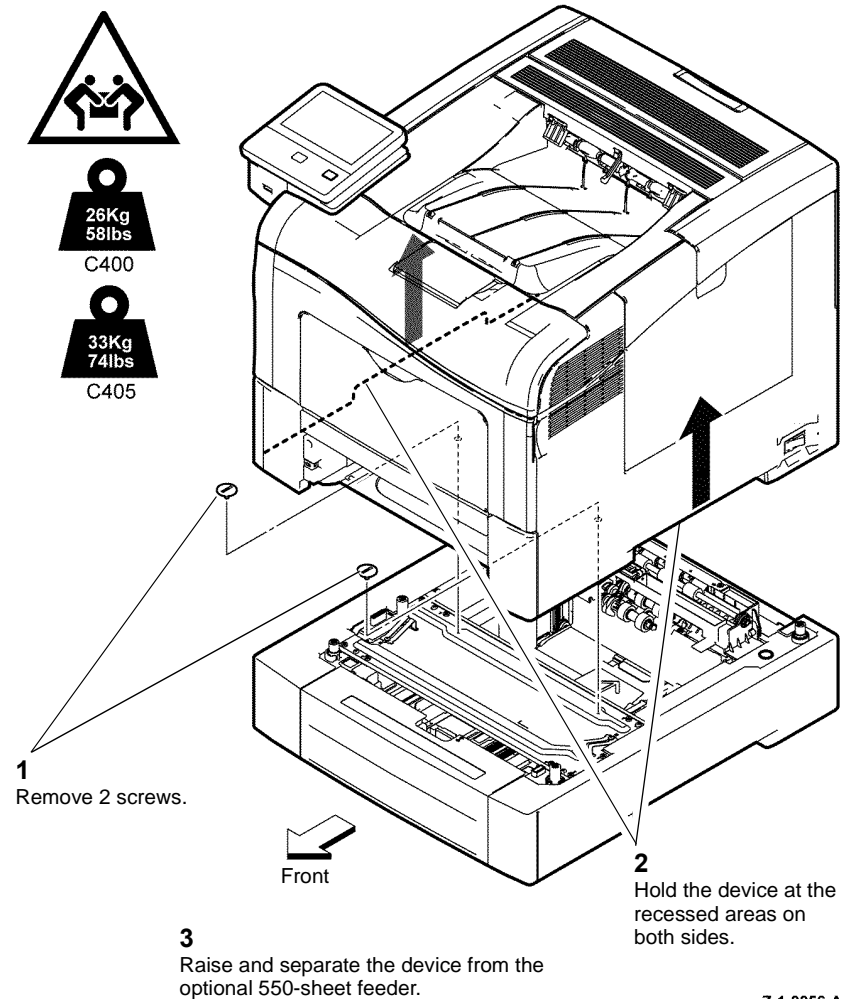

Figure 1 Optional 550-sheet feeder
2. Separate the optional 550-sheet feeder, Figure 1.